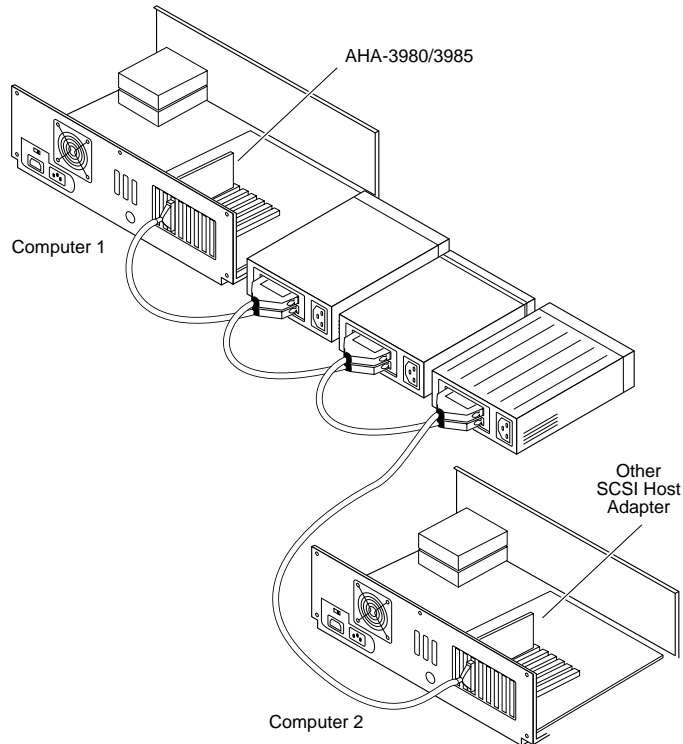

Figure 5-13. SCSI Devices Shared by Two Computers
- 3 Connect the AHA-398x channel, the SCSI devices, and the host adapter in the second computer as shown in Figure 5-13.